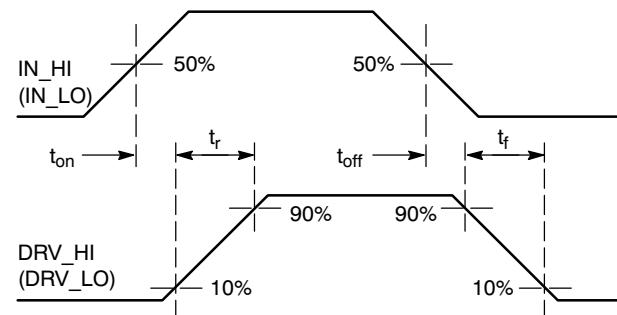
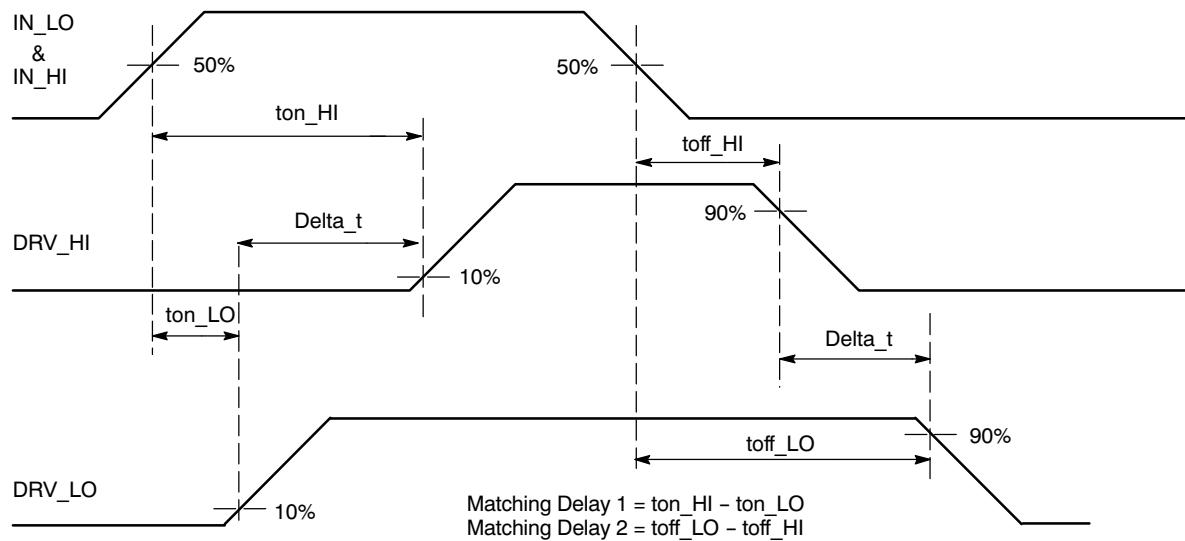

Figure 7. Propagation Delay and Rise / Fall Time Definition
Figure 8. Matching Propagation Delay (A Version)
5. Timing diagram definition see: Figure 7, Figure 8 and Figure 9.